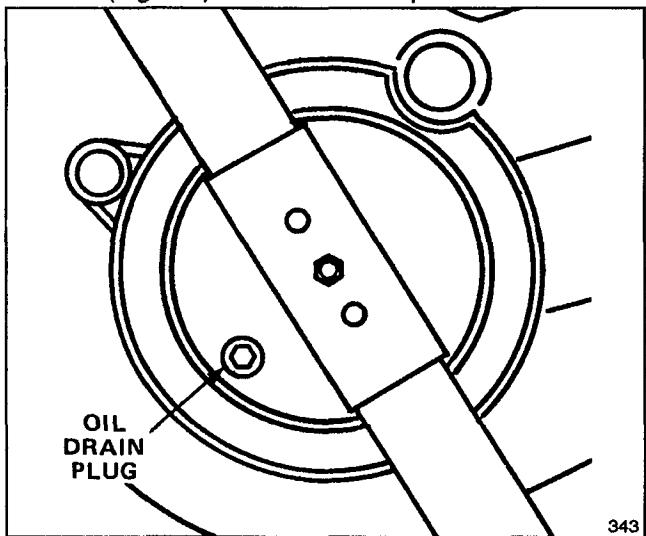

Figure 13
3. Tip mower on its right side. Remove drain plug from underside of mower using an adjustable wrench (Fig. 13). Place a drain pan under mower.